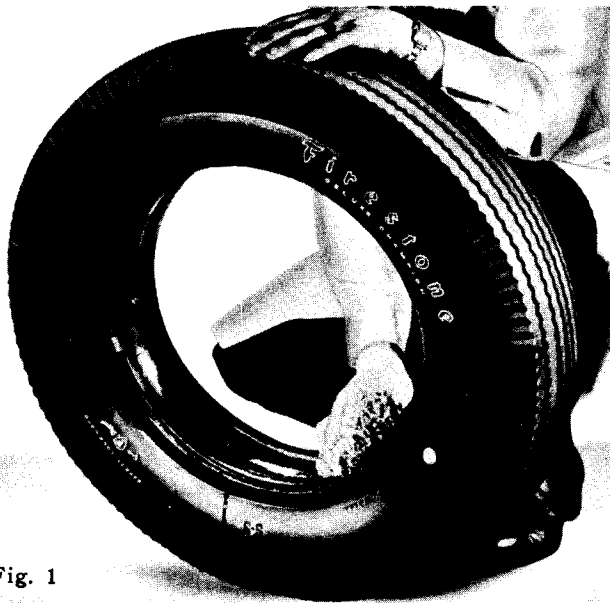

Fig. 1
4. Dip a cloth or sponge in the suds and swab thoroughly all around the base of the tube, between the tube and beads of tire, and on the face of the beads. (See Figure 1.) The soap acts as a lubricant and reduces the fric-